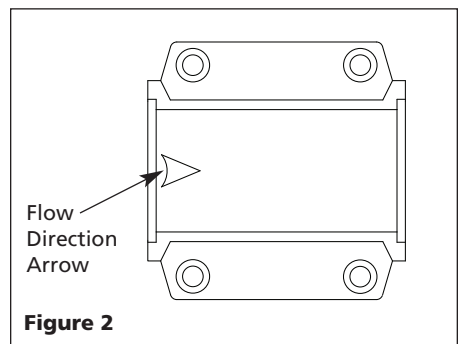

Figure 2
1. Locate the air flow direction arrow (See Figure 2, detail). This arrow shows the direction of the air flow, i.e., it points to the outlet.
- Verify the arrow points to the outlet. (See Figure 2.)